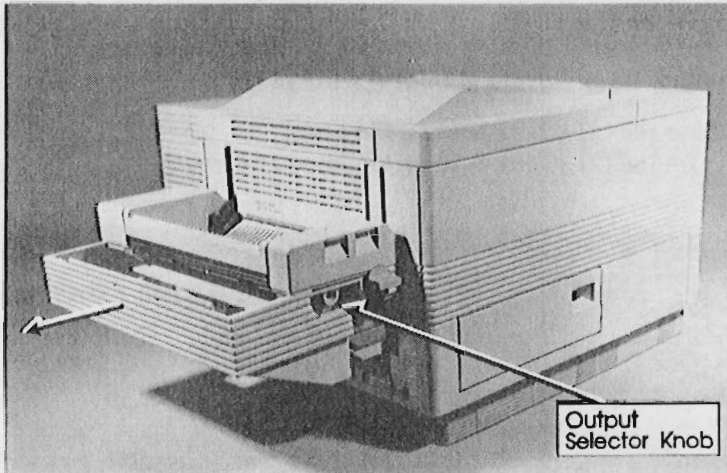

Figure 6-15. HP 33459 Rear Cover Removal
1. Remove the (2) screws that secure the rear switchback cover.
4. The left side cover must be removed with the output selector knob attached. See Figure 6-15